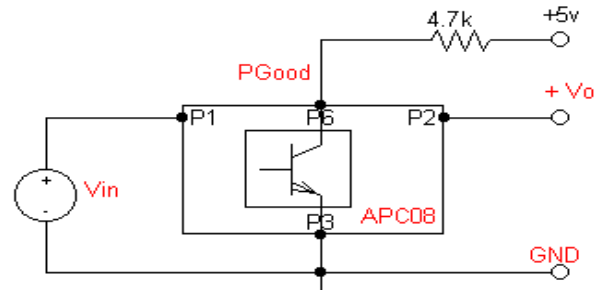

Figure 6. PGGood setup.
8. Refer to Figure 6 for the PGood configuration.
PG pin provides an output signal indicating the V_{out} is operational (TTL logic signal). It can sink current up to a max of 5mA and can have a maximum external pull-up voltage of 6V. Please see recommended setup shown on Figure 6.